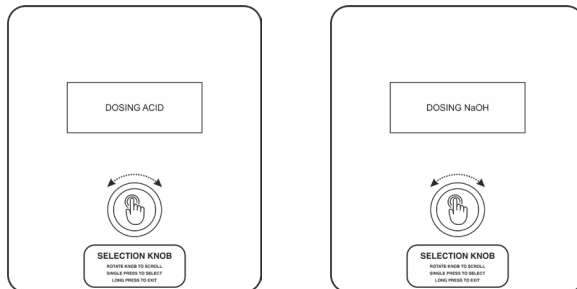

Fig. No. 20.2
- **DOSING REAGENT** (Ref. Fig. No. 20.2 & 20.3)